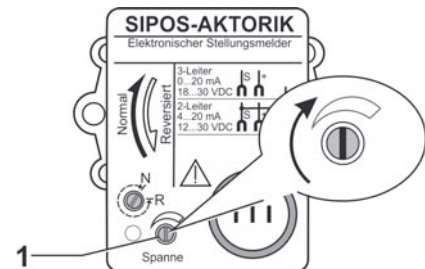

Fig. 13: Adjustment of output current 20 mA
2. Set output current using span adjuster (fig. 13, item 1) to 20 ± 0.02 mA.